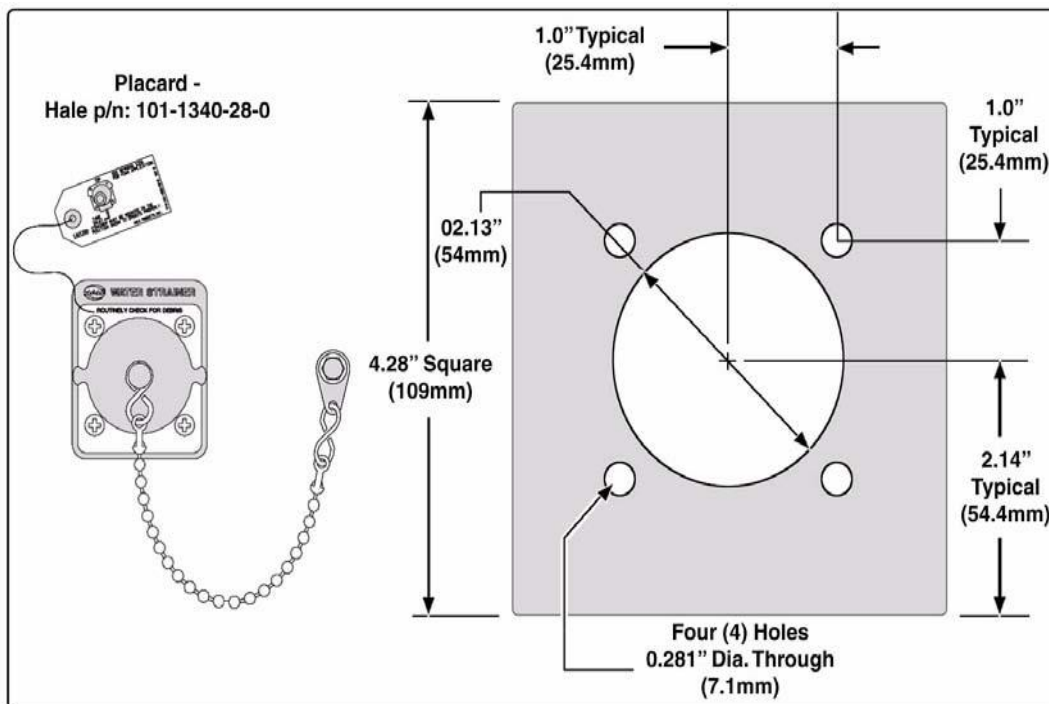

Figure 25: Water Strainer Cut-out
- The CAFS system cooling water strainer is mounted to the pump panel through a 2-1/8" (54 mm) hole, with the supplied placard as shown in **Figure 25**.